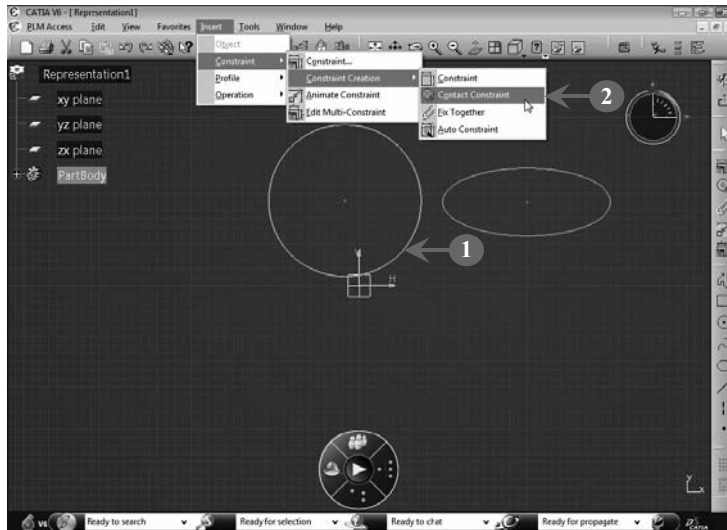

FIGURE 2.76
1. Select the circle to which you want to apply the contact constraint (**Figure 2.76**).
2. Select **Insert > Constraint > Constraint Creation > Contact Constraint**, as shown in Figure 2.76: